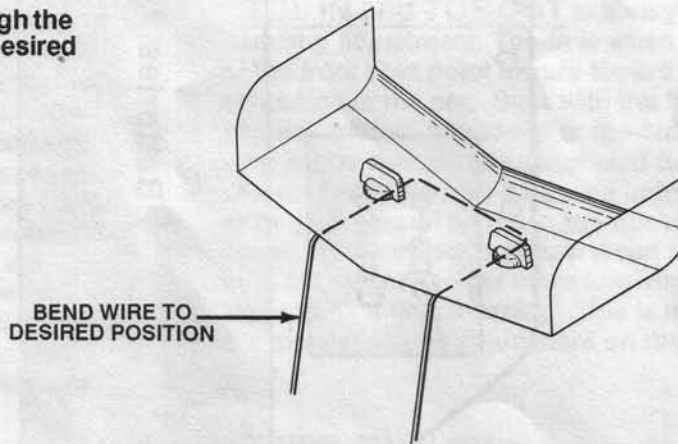

FIG. 44
4. Insert the wing wire (105) from the back through the wing buttons (116) (121) until the wing is in the desired position and bend wire (105) to suit. Fig 44